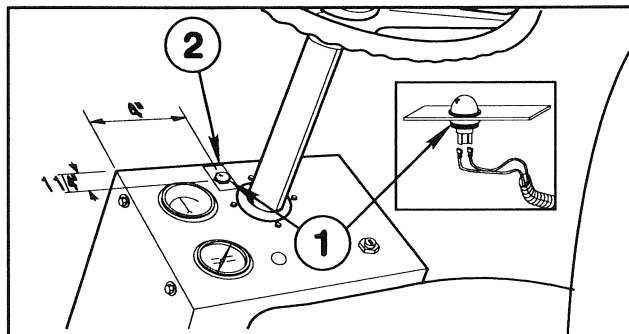

FIG. 8
4. Mount Fuse Block to Console Cover using two (2) # 10 NC x 5/8" rec. rd. hd. mach. screws and hex nuts.
6. Route Wiring Harness through floor and back through axle mounting bracket. Route the harness section with three (3) clear 6-way connectors back along left side of Vehicle to behind engine. Then guide up, into the Seat Box.
7. Install Sonic Boom™ Decal and Indicator Light on Dash (11/16" DIA. hole required.) Connect Harness Leads to Light. Reinstall the Console Cover. See FIG. 8